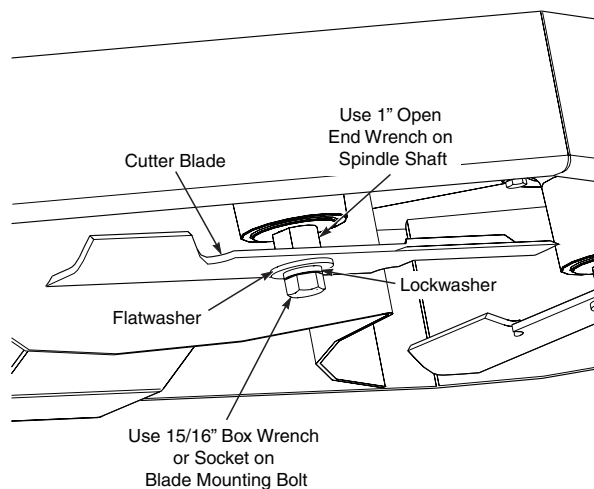

Figure 3-4. Cutter Blade Installation
- Re-install the original cutter blades that were removed when installing this grass catcher and secure using the hardware removed. See Figure 3-4. Use optional Blade Buddy tool P/N 9212 to assist in securing the cutter blades.